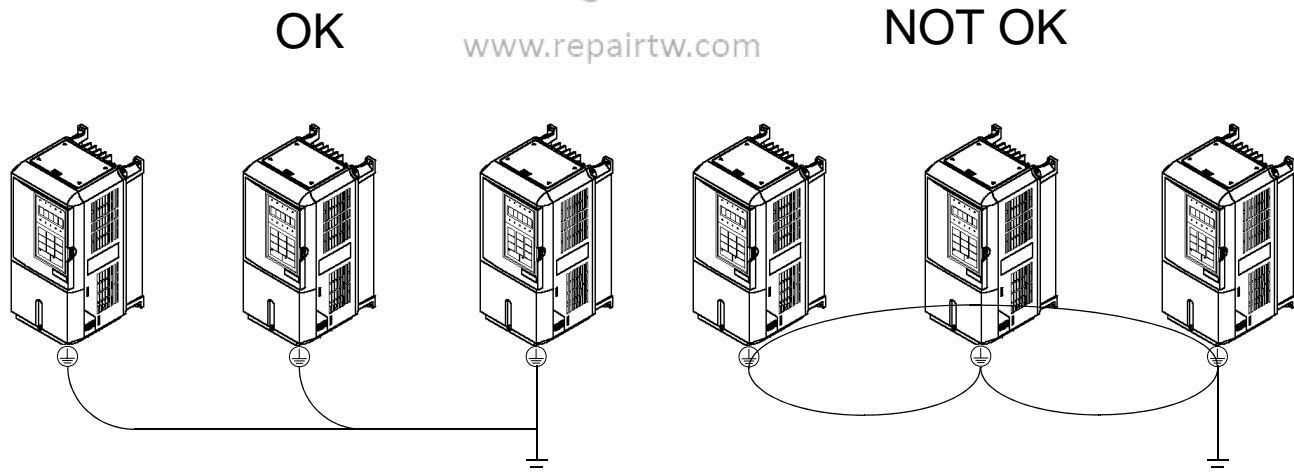

Fig 2.4 Ground Wiring Examples
5. When using more than one Drive, be careful not to loop the ground wire. See Fig 2.4.